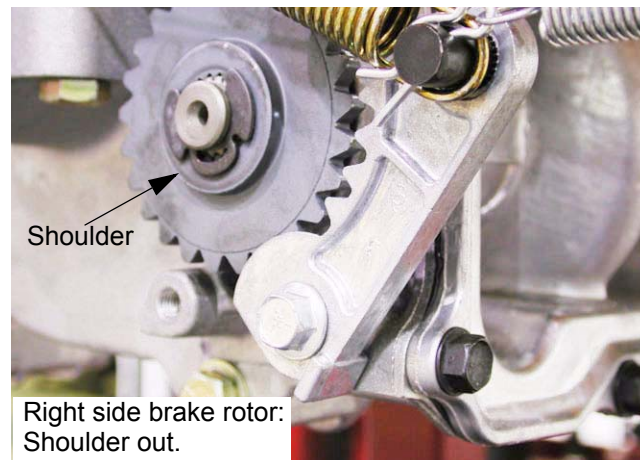

Figure 8.9
- 8.9. Prior to adjustment, check the brake pawls and rotors. See Figure 8.9.